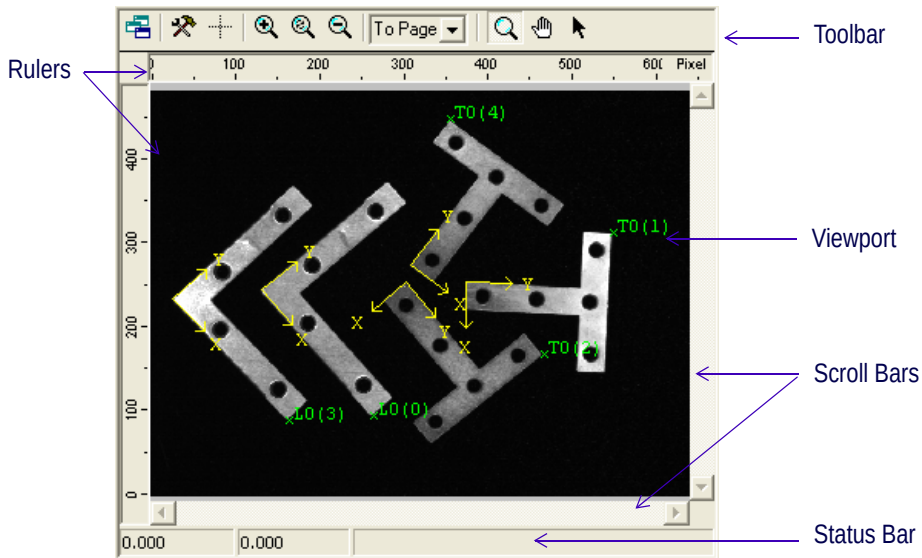

Figure 116 Typical HexSight Display Screen
- Figure 116 shows a typical HexSight display screen. The **Elements of HexSight Displays** section presents the different elements that constitute such a screen.